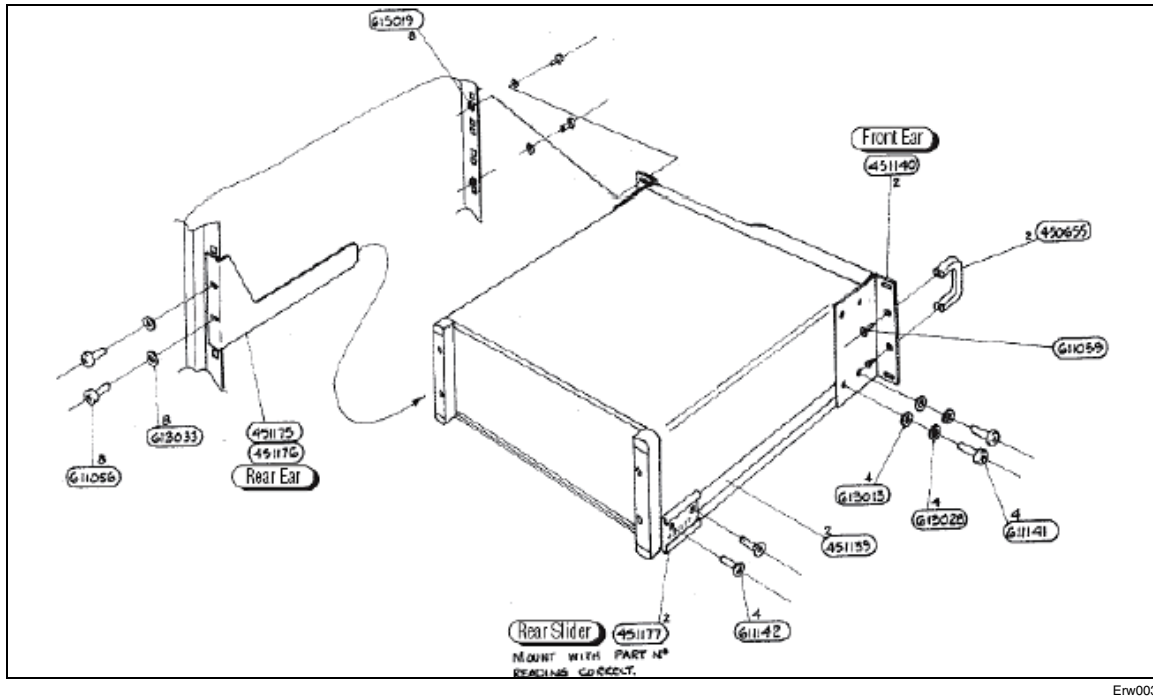

Figure 3. 9500-90 FLK — Rack Mounting Kit — Fitting
9500-90 FLK permits the instrument to be mounted in a standard 19 inch rack. The method of fitting this option is described below, the locations being shown in Figure 3.
- a. Fit the eight M6 cage nuts into the correct cutouts at front and rear of the rack (see Figure 3). Squeeze the cage on each nut and insert from the inside of the rack.